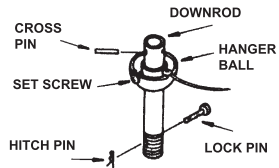

Fig.10
Step 3. Remove hanger ball from downrod assembly by loosening set screws, removing the cross pin, and sliding ball off rod. Then remove the hitch pin and lock pin from downrod. (Fig.10)